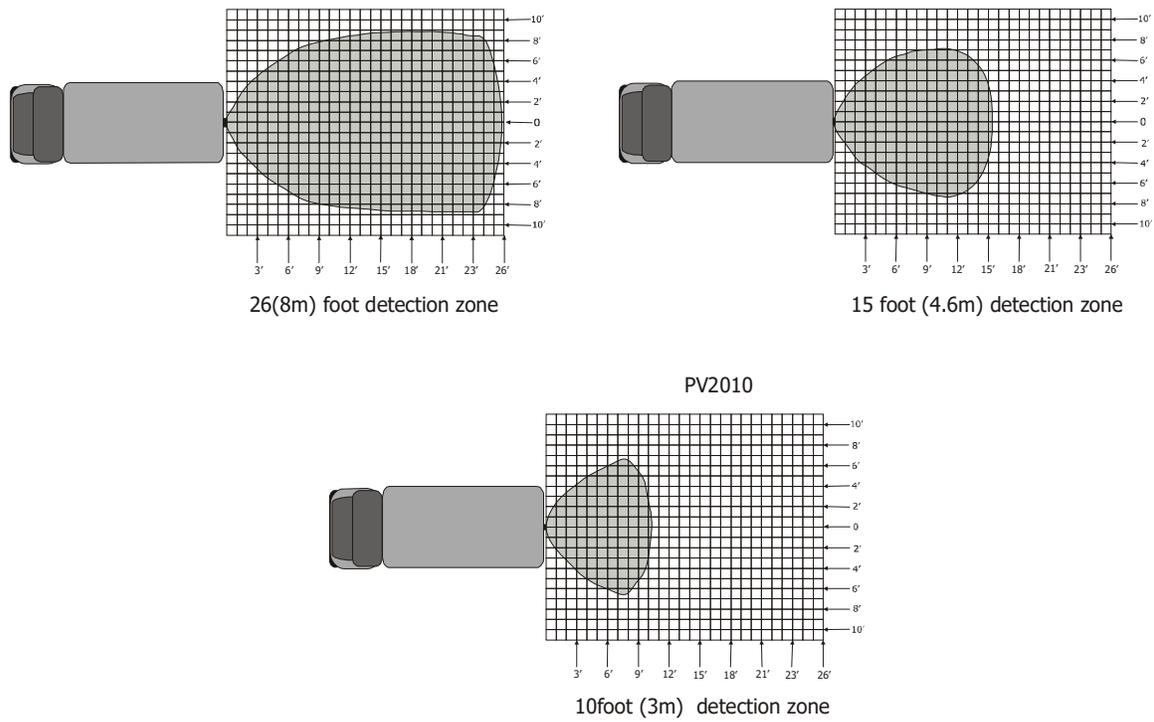

Figure 2. Typical Detection Patterns
- 2) IF REVERSE INDICATION SWITCHES POSITIVE, CONNECT AS SHOWN IN FIGURE 2.